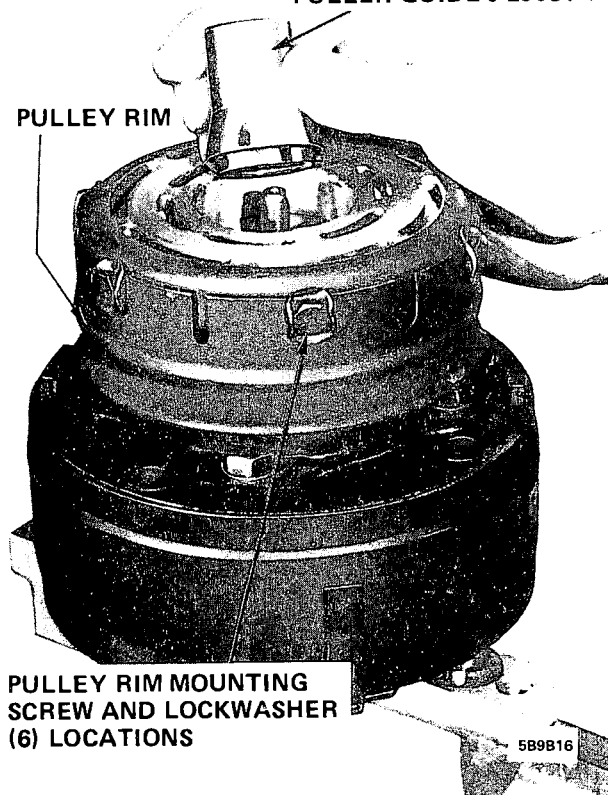

Figure 9B-40 - Installing Rotor and Bearing Pulley Guide - 4 Cylinder Compressor
3. At a 45 degree angle and .045"-.055" deep, stake the bearing in place as shown in figure 9B-43, but do not stake too deep and possibly distort the outer race of the bearing. Use new stake locations 120 degrees apart. Do not use the old stake locations.
assembled to the handle as shown in figure 9B-45, the tool will apply force to the inner race of the bearing when installing the clutch and pulley assembly on the front head of the compressor.